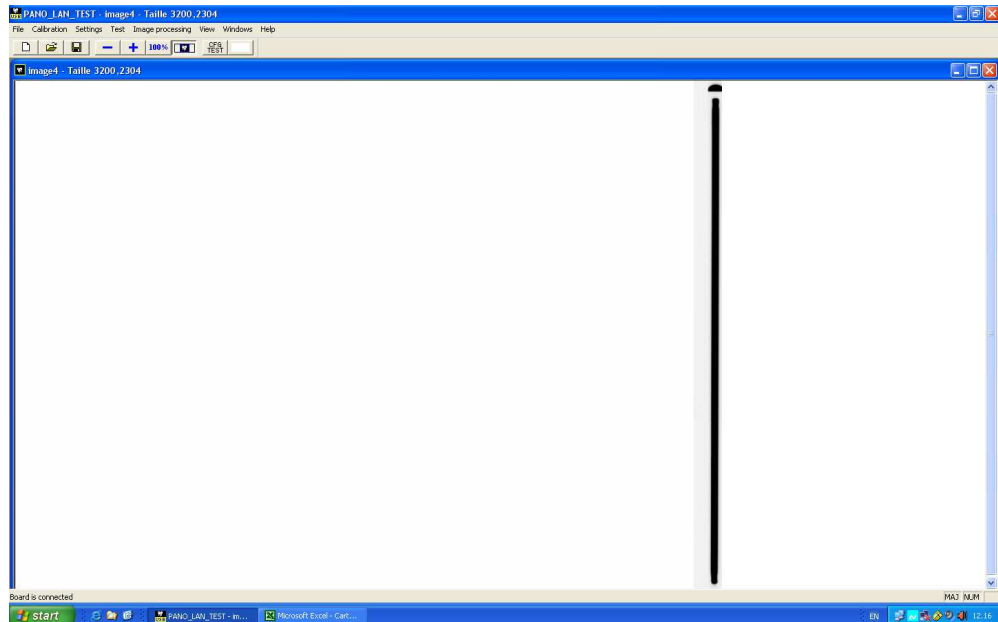

Figure 7-10
38. Take X-ray pressing the X-ray button and check if in the obtained narrow image the projection of the slit of the centering tool is vertical and centered with the arc (Figure 7-10 and Figure 7-11).